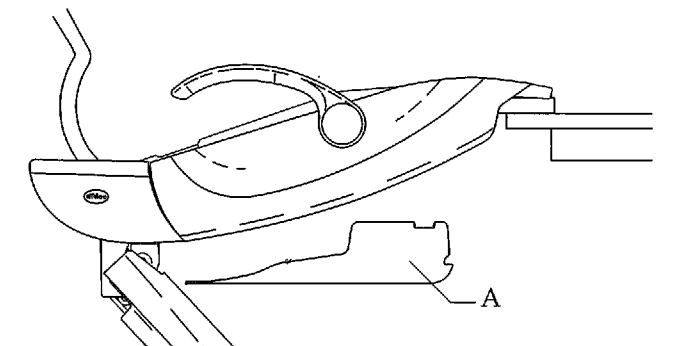

Figure 74. Attaching the cover under the upper structure. (A) delivery mount cover
4. Slide the chair underside cover into the tubing guide (see Figure 74).